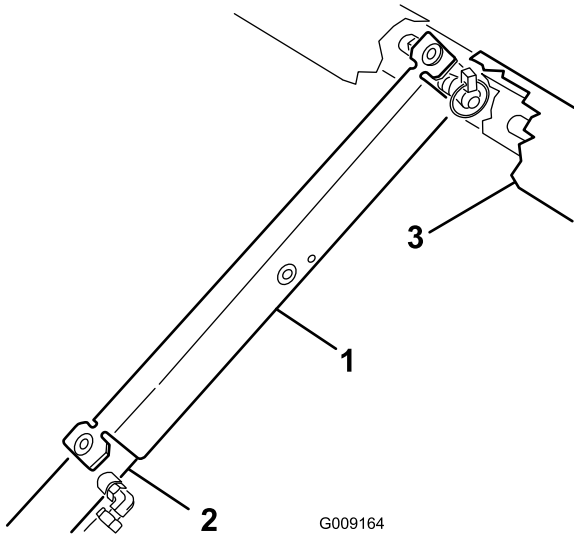

Figure 12
9. Push the bed support onto the cylinder rod, making sure that the support end tabs rest on the end of cylinder barrel and on the cylinder rod end (Figure 12).